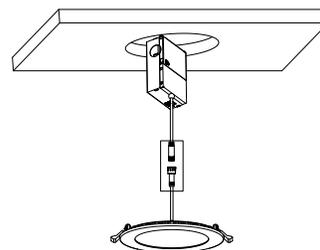

Fig. 3
10. Insert the driver box through the cutout hole (Fig. 3). Driver box should be secured to studs, joists or similar fixed structure. If using optional rough-in plate, refer to page 3 for rough-in plate instructions.
11. Connect the fixture to the driver box by connecting the male and female connector cables together. If using the extension cable accessory, connect the same way (Fig. 3).